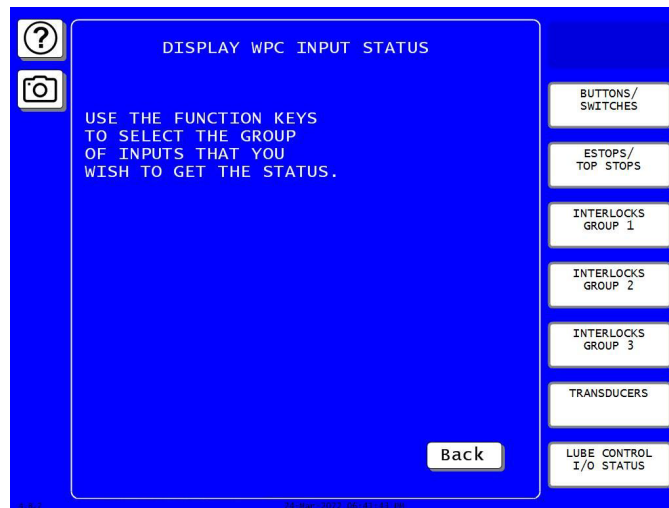

Figure 3-21. Display WPC Input Status Screen
1. On the WPC Initialization Menu (see Figure 3-5, page 40), select INPUT STATUS. The Display WPC Input Status screen, shown in Figure 3-21, displays.